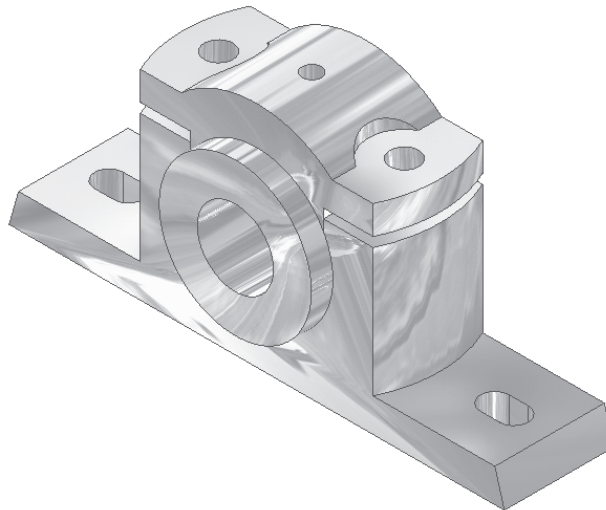

Figure 8-55 Assembly after assembling the Brasses
6. Turn on the visibility of the Cap using the browser and change the display type to **Shaded Display**. The assembly is shown in Figure 8-55.